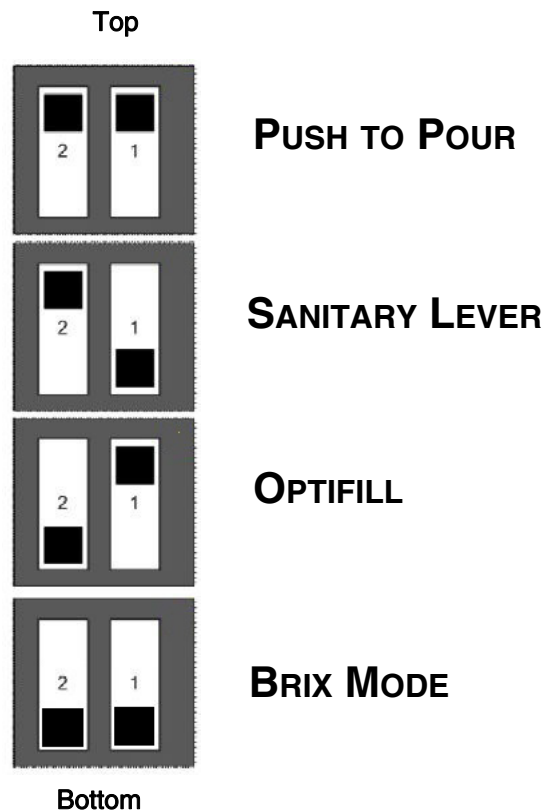

Figure 4.
3. "The user has to enter into "ratio mode" via the dip switches on the board. Set the dip switches as shown in Figure 4. First adjust the water flow rate then press the water button. The valve will dispense a preset amount of water. Adjust the flow rate using the valve flow control until the flow rate is adjusted properly. After water is adjusted properly - use the Brand buttons to dispense a preset amount of syrup. Adjust the corresponding Brand flow control until the Brand flow rate is adjusted properly